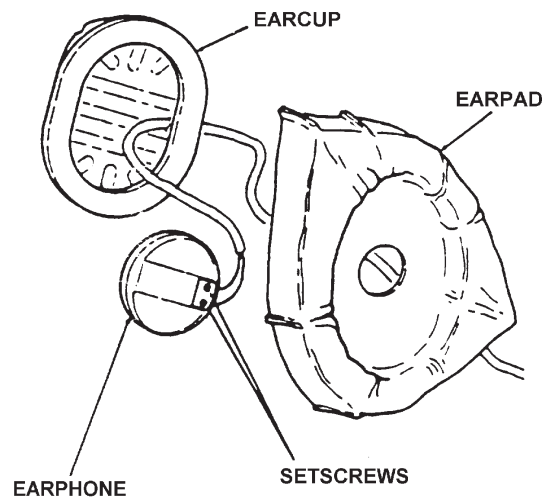

Figure 3-28. Earphone and Setscrews
- c. Referring to Figure 3-28, insert the earphone contacts into the earphones and tighten the setscrews.